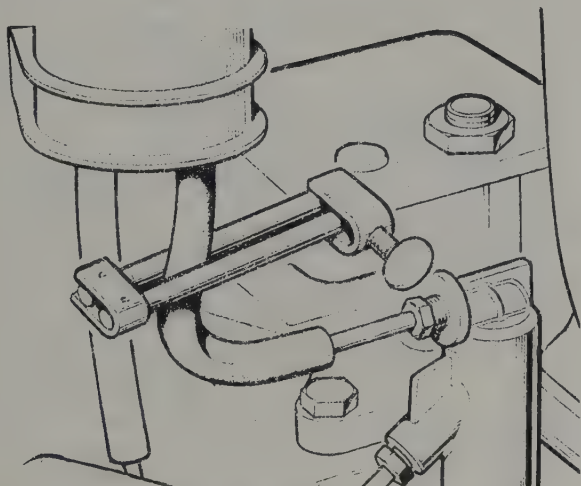

Fig. 5.1. Reservoir hose clamped to prevent fluid loss
- 2 Clamp the flexible pipe which runs between the reservoir and the master cylinder, to prevent loss of fluid (Fig. 5.1).